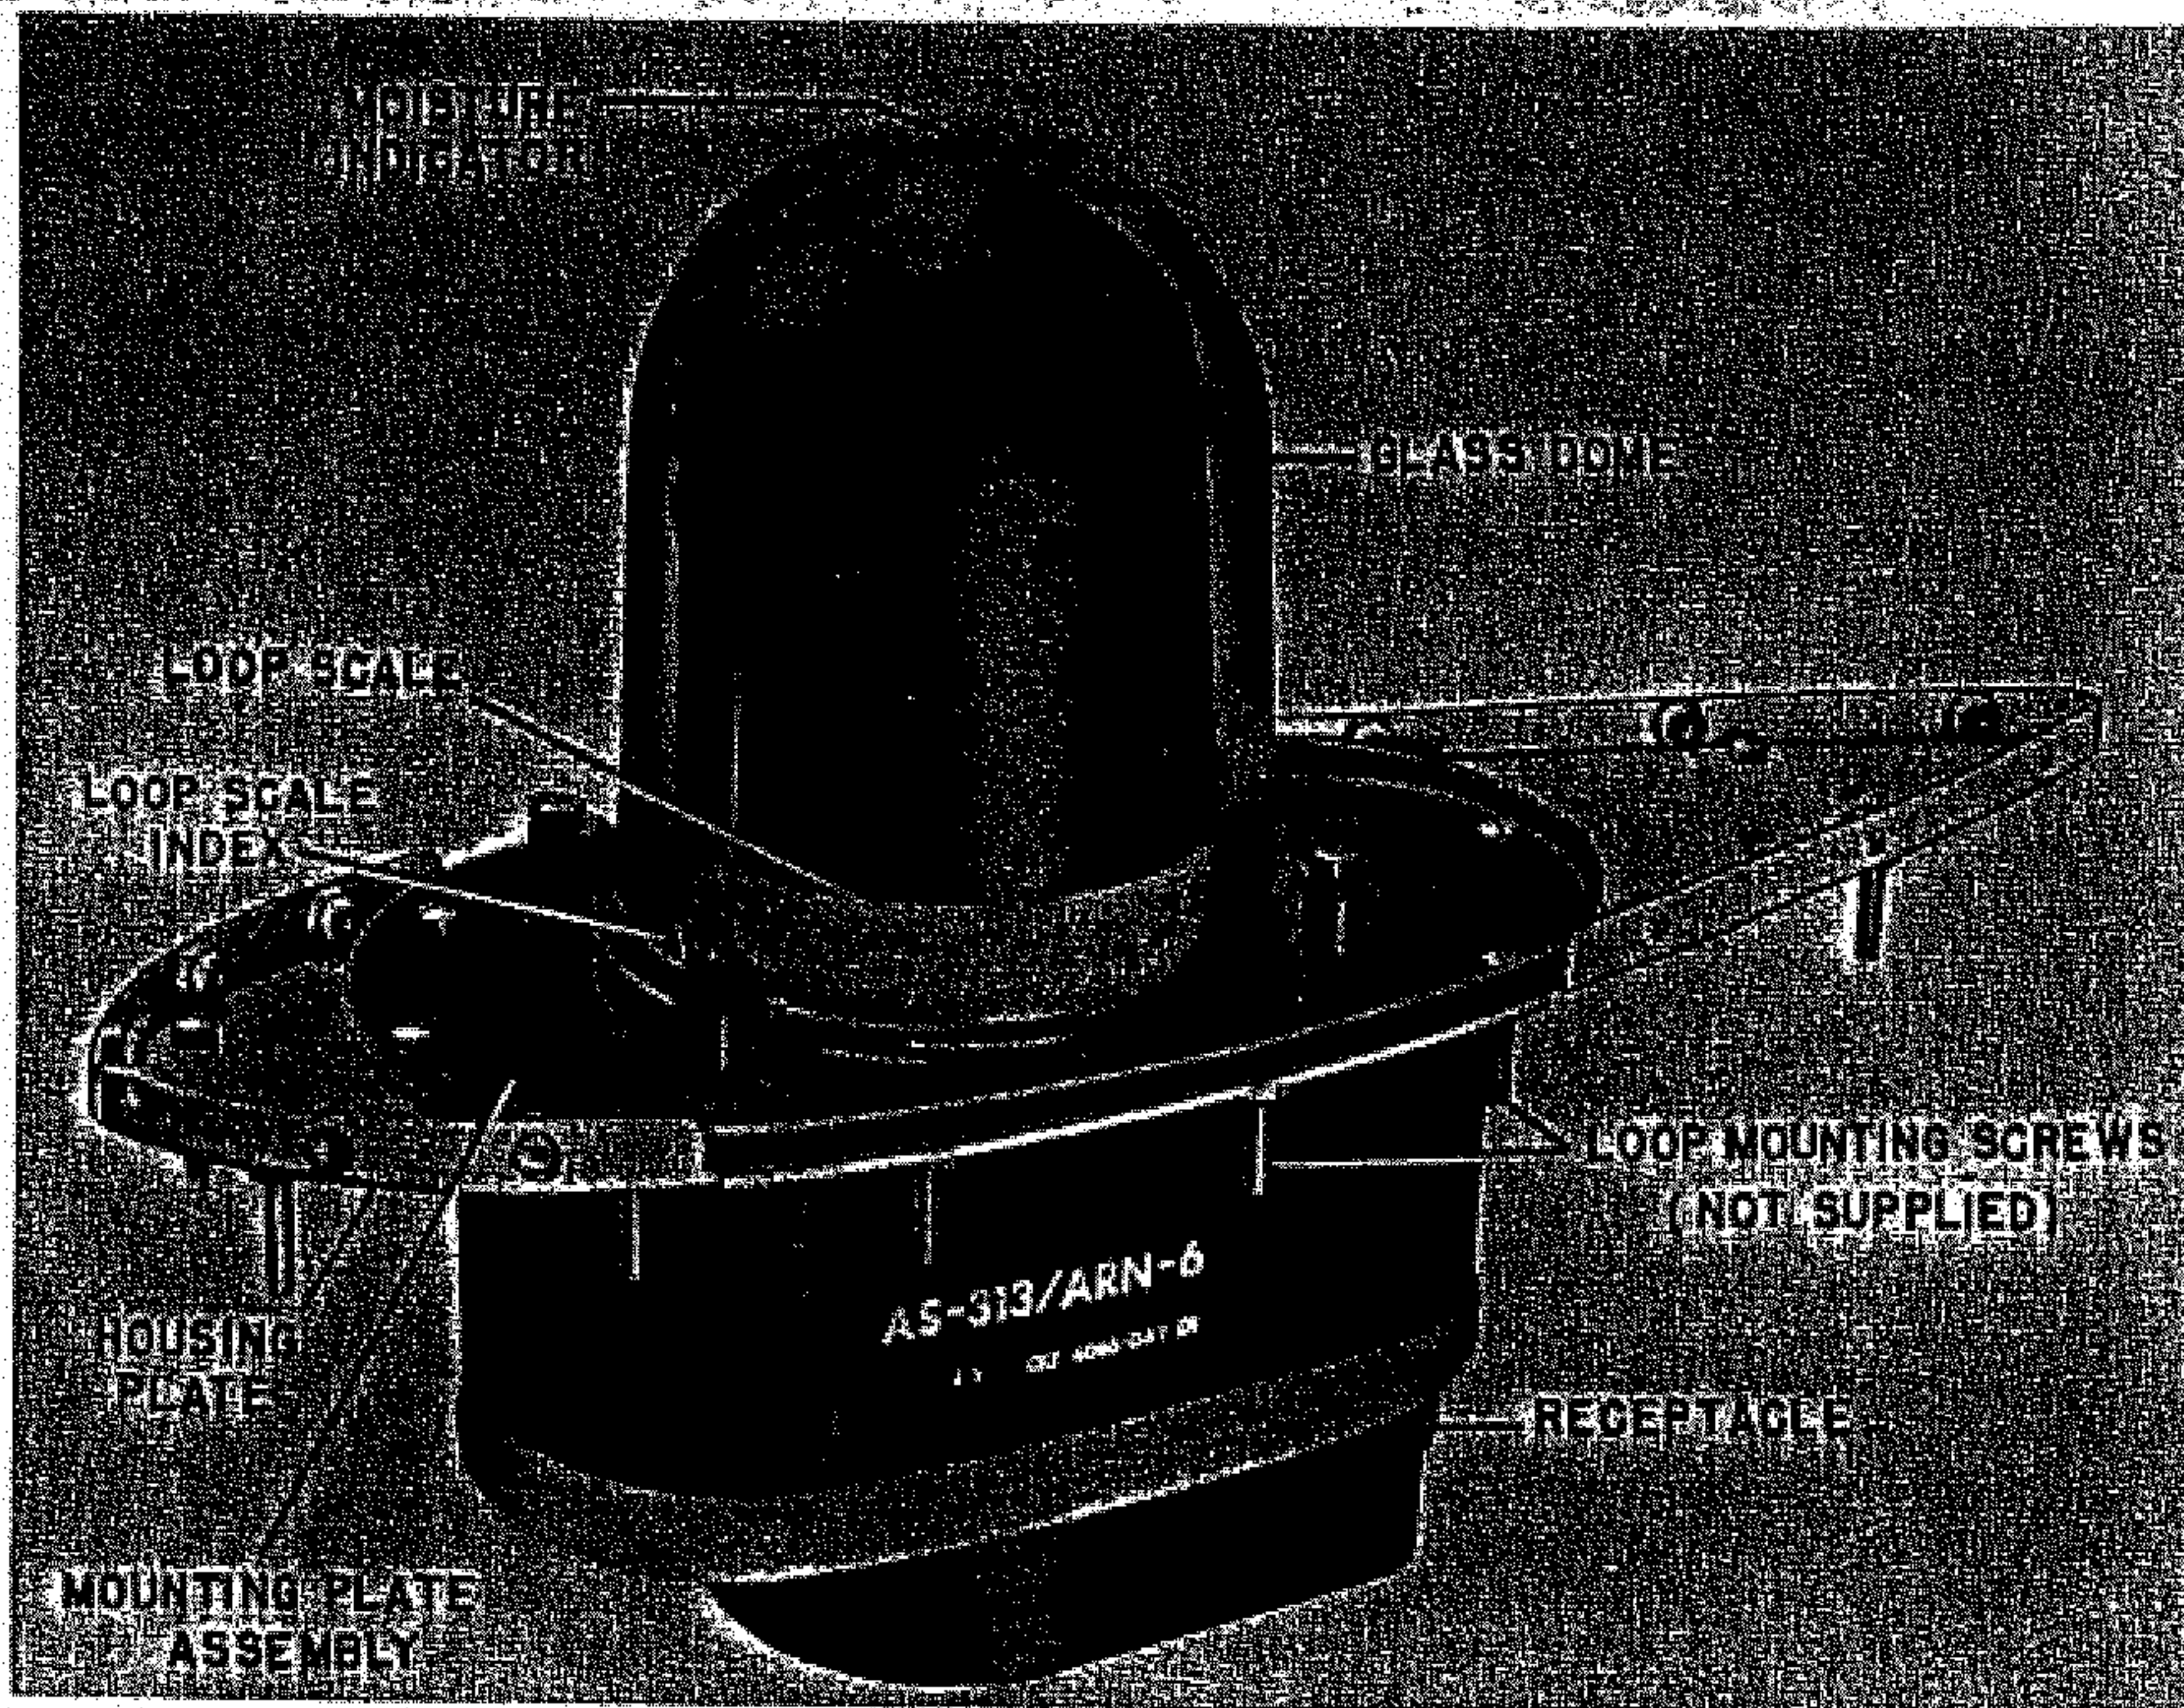
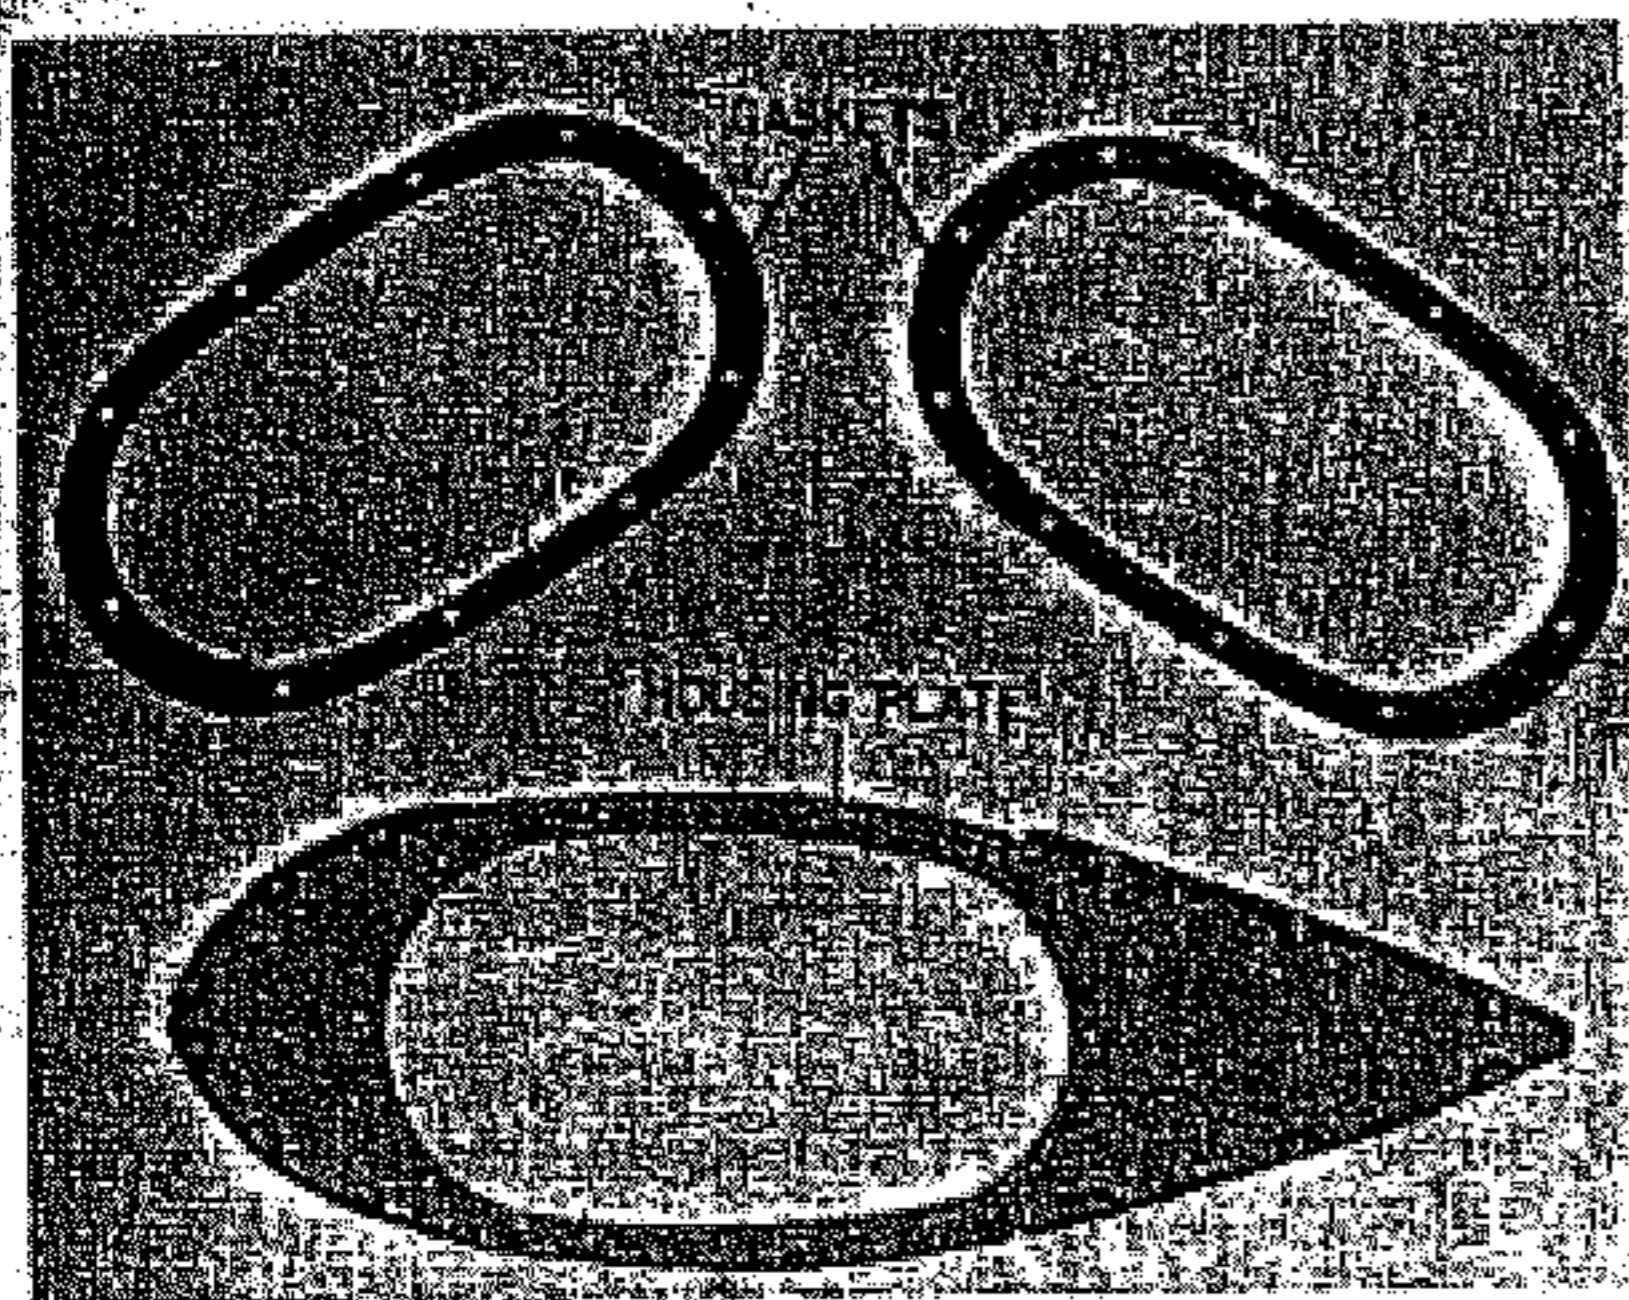

Figure 2-1. Loop AS-313( )/ARN-6, Housing Removed
Figure 2-2. Loop AS-3131/ARN-6,
1. Remove the loop housing in order to see the loop scale (see figure 2-1). Use the "LOOP L-R" switch and rotate the loop to 15 degrees as indicated on the loop scale. Adjust the "VAR" knob on the indicator until the azimuth zero is at the index. Check the indicator pointer reading, which should be 15 degrees if the loop compensator is adjusted for zero correction. Rotate the loop to 45 degrees as indicated on the loop scale and again check the indicator reading. Repeat this check in 30-degree steps for one complete rotation of the loop.
(b) INSTALLATION.—Four holes are provided for holding the housing plate to the skin of the aircraft while mounting the loop (see figure 2-1) and ten holes are provided for the actual fastening of the loop and housing plate to the aircraft (see figure 6-17). A hole must be cut in the skin to accommodate the base of the loop, which projects into the fuselage about 5 inches. The housing is placed over the projecting glass dome and fastened to the housing plate by means of 12 screws. Two gaskets are supplied (see figure 2-2), one to go between the loop mounting plate and the housing plate, and the other to go between the housing plate and the skin of the aircraft. These gaskets are intended to prevent water, dirt, etc., from entering the fuselage. In locating the mounting holes for the No. 10 mounting screws, the fore-and-aft holes must be exactly in line with the center-line of the fuselage (within 0.25 degrees). In some cases the loop may be mounted slightly to one side of the center-line, but the axis of the housing must still be parallel to the center-